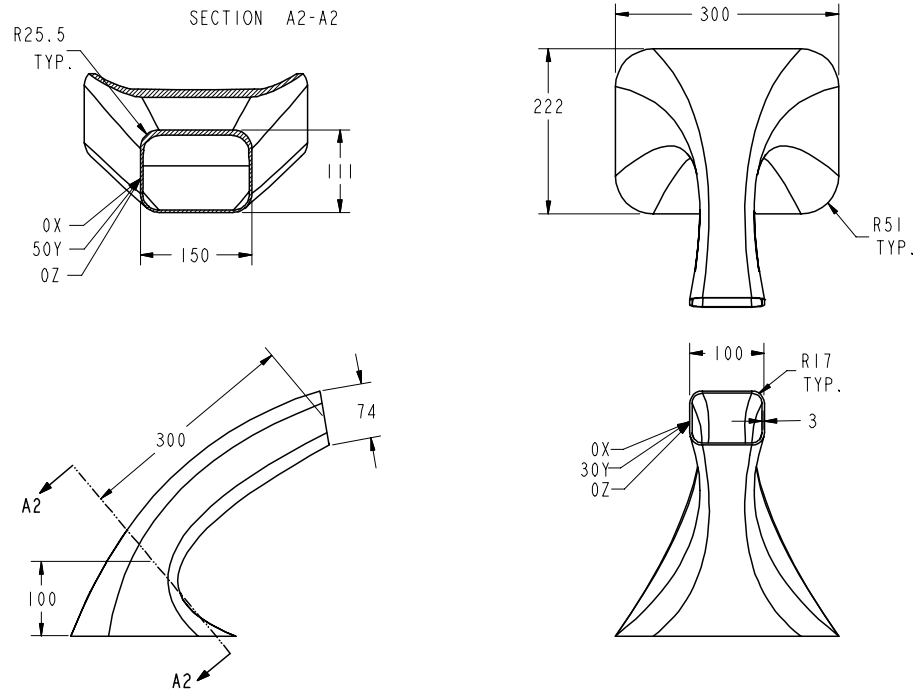

Figure 8-117 Sectioned, left-side, front, and top views of the model
In this tutorial, you will create the model of a tap shown in Figure 8-117. All dimensions for the three sections are shown in the figure. **(Expected time: 30 min)**
- Examine the model and determine the number of sections in the blend feature, refer to Figure 8-117.